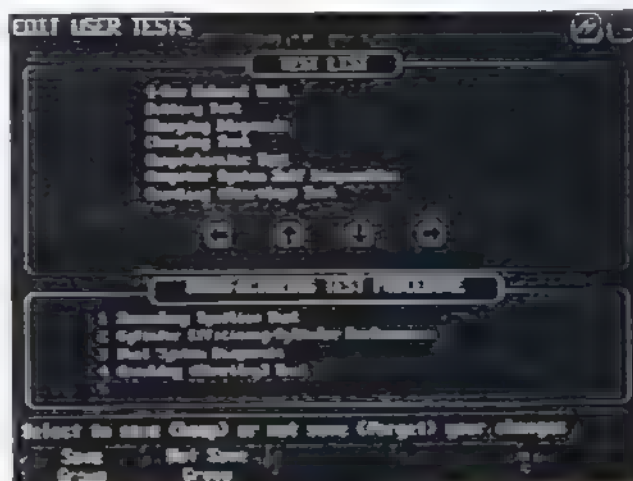

Figure 5-24
3. Press [F1] when finished. The screen in Figure 5-24 appears prompting you to save or not save the additions.
3. Press [F1] when finished. The screen in Figure 5-24 appears.
5. Press [F1] when finished. The screen in Figure 5-24 appears